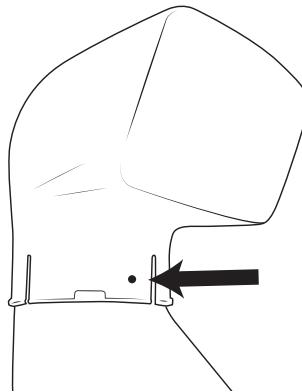

Figure 19
3. Mark the hole location on the Intake body and drill a 5/16" hole (Fig 19).